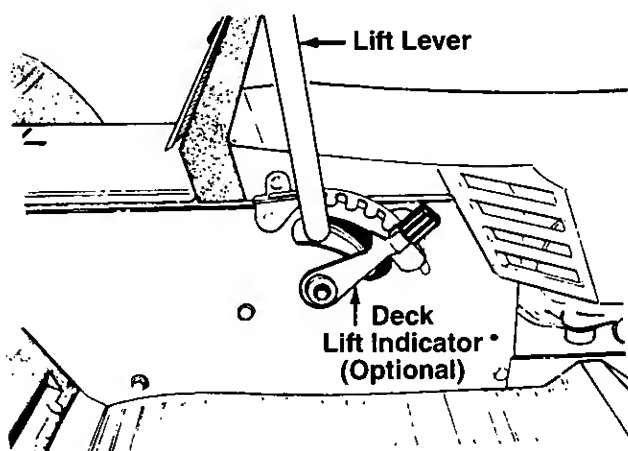

FIGURE 9.
NOTE: The lift lever **must** be in the BLADES OFF position when starting the engine, when shifting into reverse and if the operator leaves the seat. See figure 9.
If so equipped, the deck lift indicator marks the position being used for the lift lever. Select the lift lever position desired, press the indicator lever outward, move it to the position immediately below the lift lever and release the indicator lever. See figure 9.
2. Place the lift lever in the BLADES OFF position. See figure 9.